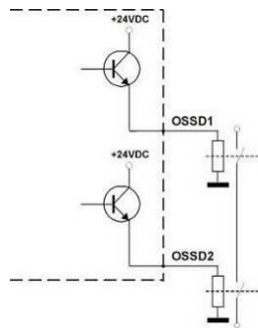

Figure 30
- The OSSD1 and OSSD2 safety contacts cannot be connected in series or in parallel, but must be used separately (Figure 30), conforming to the plant’s safety requirements.